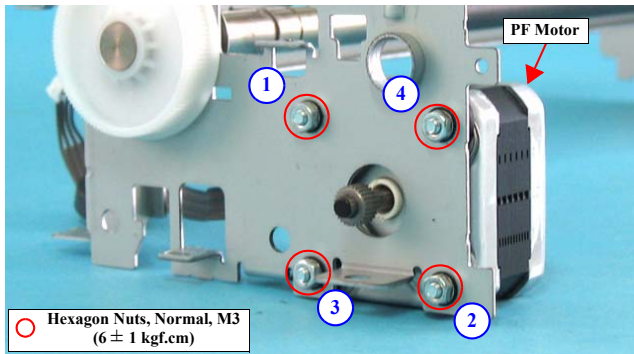

Figure 4-88. Removing PF Motor (2)
- When installing the PF Motor, secure the hexagon nuts in the order shown in Figure 4-88.